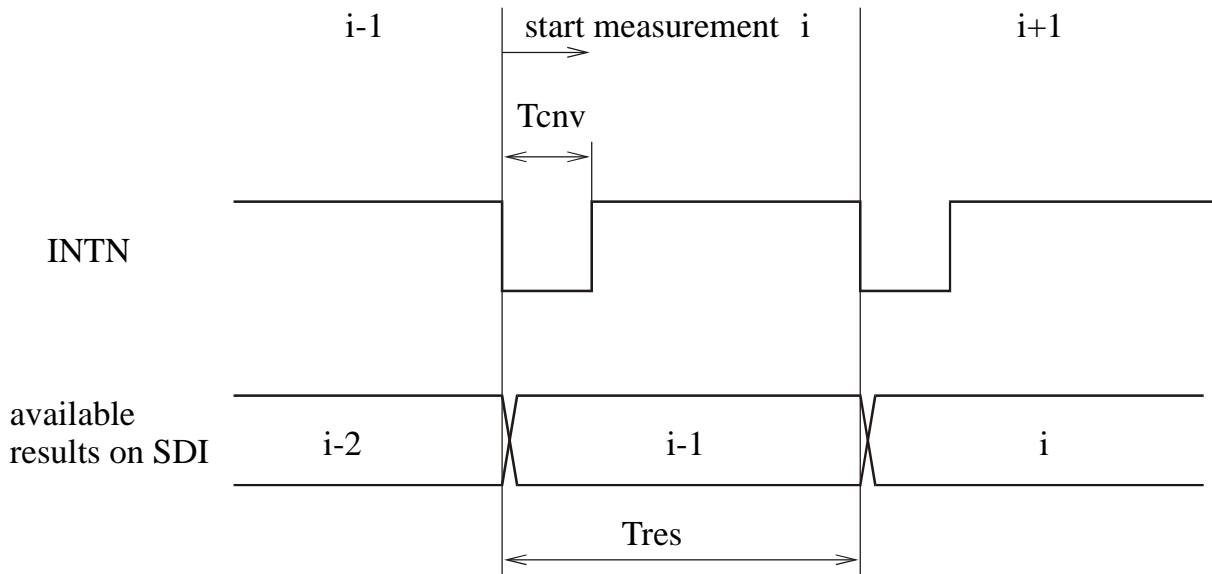

Figure 9: INTN pin in modes 1 and 2
- 2) In measurement modes (MMS and MMD) the INTN pin is used to synchronize the SDI bus operations (See Fig. 9). The trailing edge of INTN signals the start of a new measurement.